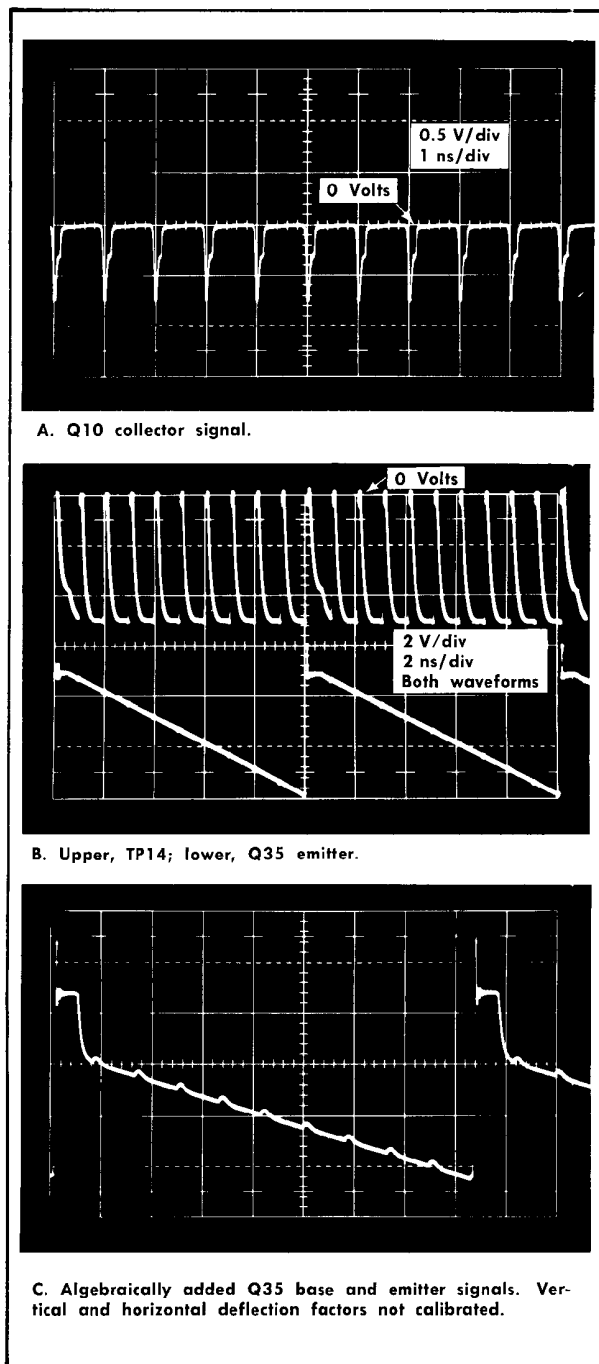

Fig. 3-2. Clock and 100 kHz Scaler signals.
**Oscillator.** The 1 MHz Clock is a modified Colpitts crystal controlled oscillator with the crystal operating in a parallel mode between Q10 base and ground. Q10 static current value is limited by R13. Its value is determined by the voltage at Q10 base, set by the divider R10/R11. C13 provides positive feedback to sustain oscillations that begin when power is applied. Q10 current pulses produce negative-going voltage pulses of approximately  $-0.8$  volt across Q14 base-emitter junction. R14 assures that Q14 is cut off when Q10 is not conducting. Q10 is the oscillator; Q14 is an amplifier/inverter that provides positive pulses to the 100 kHz Scalar. Both Q10 and Q14 operate in a non-linear mode so that pulses from Q14 collector are definitely not sinusoidal (see Fig. 3-2).
Test Point TP14 is a convenient test oscilloscope signal source for checking the Clock output pulses. Since Q14 is driven alternately from cut-off to saturation, the signal at TP14 swings from about  $-5.2$  volts to essentially ground. Fig. 3-2 shows the signals at both the oscillator collector and at the non-linear amplifier collector, TP14. The Clock pulses combine (at Q35 base) with a negative going ramp (at Q35 emitter) in the 100 kHz Scaler described below.